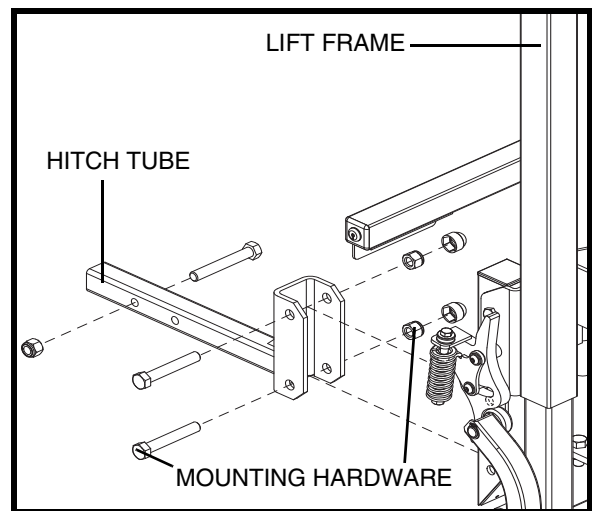

Figure 6. Hitch Tube Assembly
2. Mount the hitch tube to the lift frame using the previously removed mounting hardware. Install the hardware in the direction indicated in **figure 6**.